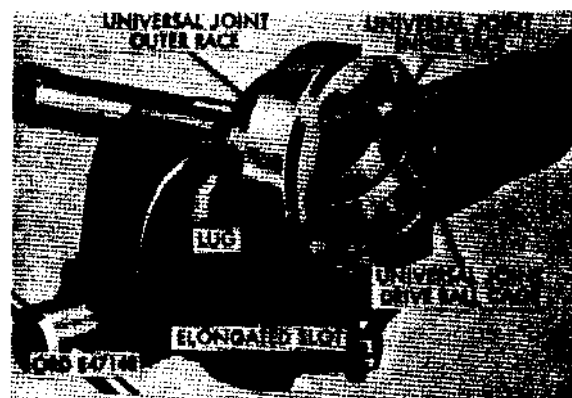

Figure 358. Removing ball cage and inner race
- (9) Remove ball cage and ball race (fig. 358). Roll the ball cage and ball race